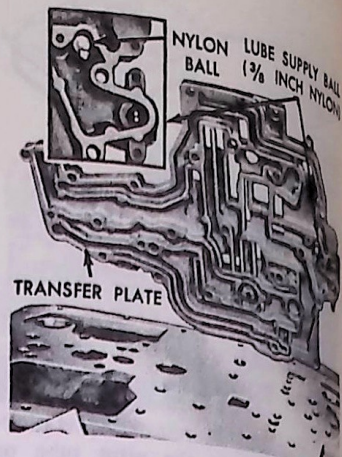

FIG. 16 Transfer Plate Installation
6. Position the oil transfer plate on the housing (Fig. 16).